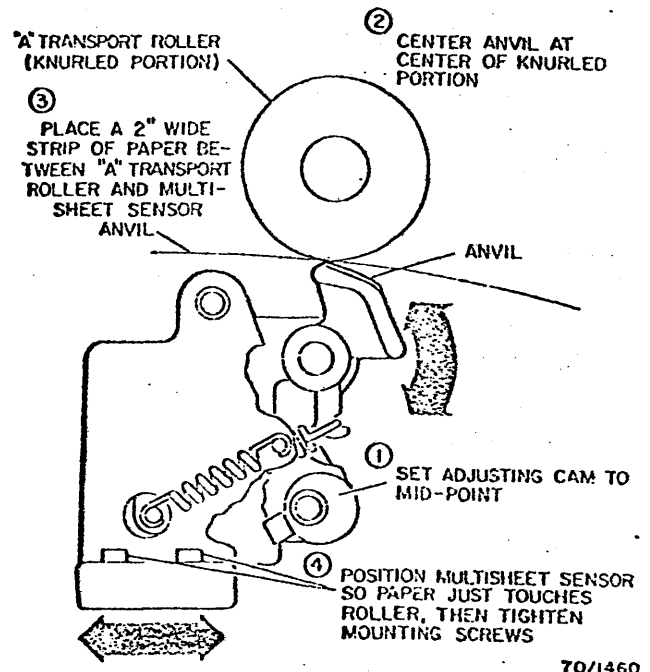

Fig. 3-104. Multi-sheet Sensor (Side-to-Side Adjustment)
6. Remove four sets of mounting hardware (Fig. 3-104). (Access to the hardware can be obtained from both the paper feeder side and reject side of the multi-sheet sensor).
3. Adjust the multi-sheet sensor position side-to-side by centering anvil at the knurled portion of the A transport roller (Fig. 3-104).